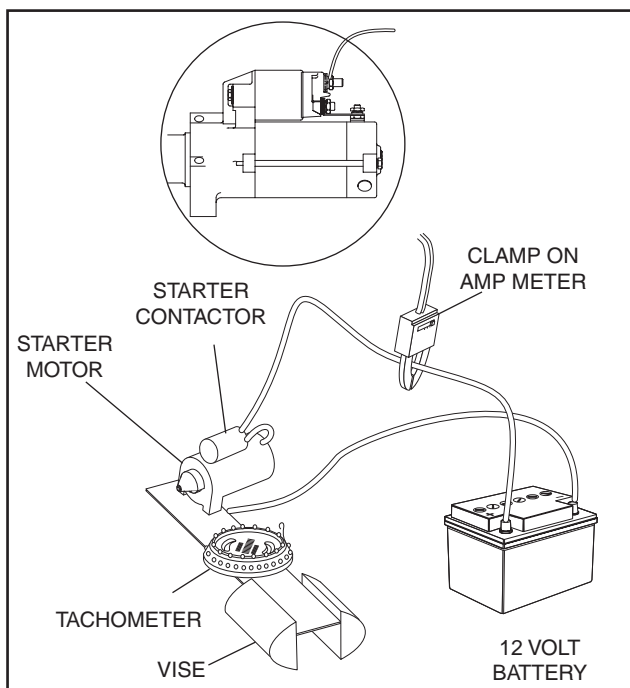

Figure 6-5. Testing Starter Motor Performance
- Faulty starter. To verify this, the starter should be removed from the engine and bench checked prior to replacing. Do an amp draw test on the bench. The starter should not exceed 62 amps with a minimum pinion speed of 3250 rpm. See Figure 6-5.
- With battery fully charged, check specific gravity readings of each cell with a Battery Hydrometer and record readings (Figure 6-5). All readings should be above 1.250 (compensating for temperature). If specific gravity readings varied 0.50 or if all cells read less than 1.225, replace battery.